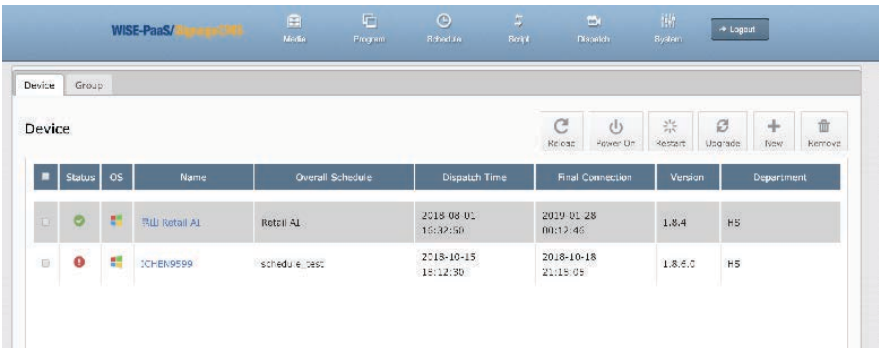

Figure 12
- Step 5. Navigate to the Device page of the interface to access the device list. Check the Status column. A green check (as shown in Figure 12) means that the device has been successfully added.